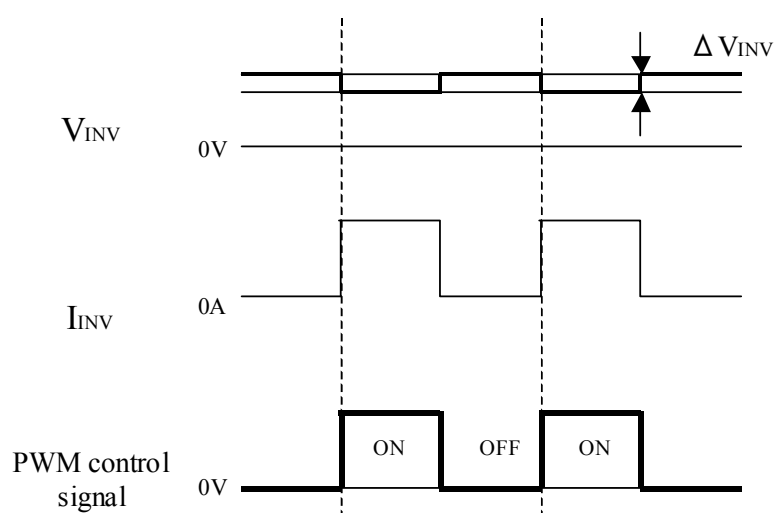

Fig.5 Brightness control voltage.
- Brightness control voltage is switched for "ON" and "OFF", as shown in Fig.5. Voltage difference generated by this switching, ΔV_{INV} , may affect a sound output, etc. when the power supply is shared between the inverter and its surrounding circuit. So, separate the power supply of the inverter circuit with the one of its surrounding circuit.
- a) Piling number of cartons: (1) maximum (do not pile up.)
- b) Packing quantity in one carton: (4) pcs.
- c) Carton size: (1230) (W) × (1090) (D) × (2134) (H)
- e) Packing Form are shown in Fig 5. (TBD)